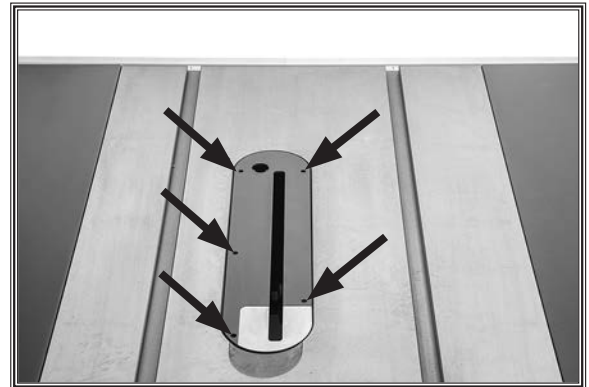

Figure 121. Location of table/dado insert holes with adjustment screws.
The table/dado insert must sit perfectly flush with the table to provide a smooth, continuous surface for the workpiece to slide over. The insert is held in place by a magnet and sits on top of five adjustment screws (see **Figure 121**). The insert should be checked and adjusted any time it is removed and replaced, after prolonged use, or any time you notice the workpiece does not slide smoothly across the insert.
3. Insert screwdriver through holes shown in **Figure 121** and either loosen screws to raise insert, or tighten screws to lower it. Repeat **Steps 2-3** until insert is perfectly flush with surface of table.